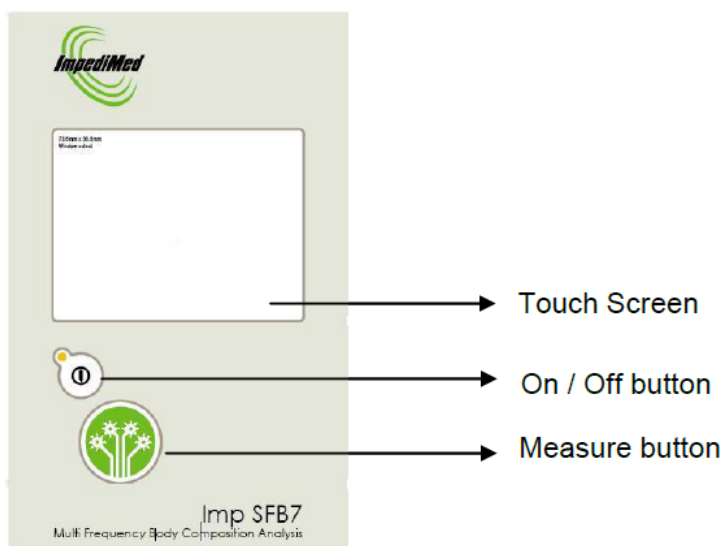

Figure 1. The front of the ImpediMed SFB7 unit.
20. Turn on the SFB7 machine by pressing the on/off button on the front of the main unit (figure 1).
29. Check that all the alligator clips are correctly attached and that the volunteer is lying in the correct position and then press the measure button on the front of the device (large circular green button) or tap the “measure” box on the touch screen (figure 1 and 7).
38. Check that all the alligator clips are correctly attached and that the volunteer is lying in the correct position and then press the measure button on the front of the device (large circular green button) or tap the “measure” box on the touch screen (figure 1 and 7).